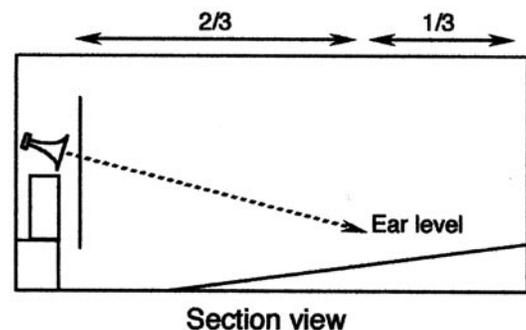

Figure 41: Screen channels, side section view.
- Tilt the HF elements downward so they point at ear level at about  $2/3$  the distance to the back wall. (Note: This will not be necessary for systems that use asymmetrical horns, which already incorporate the downward tilt in their design. (See Figure 41)